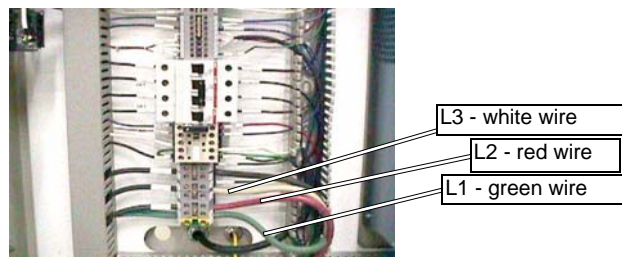

Figure 8-5: AC Power Legs L1, L2, and L3.
- Check that 460 VAC $\pm 10\%$ (380 or 415 VAC $\pm 10\%$ for international) is present on L1, L2, and L3 at the bottom of the DIN rail inside the pump control enclosure (refer to Figure 8-5).
3. Verify that 460 VAC $\pm 10\%$ (380 or 415 VAC $\pm 10\%$ International) is present across terminals L1, L2, and L3 located at the bottom of the DIN Rail inside the electrical enclosure of the pump (Figure 8-5). If no power is present across these terminals, see "No AC Power at Pump Unit" on page 8-6.